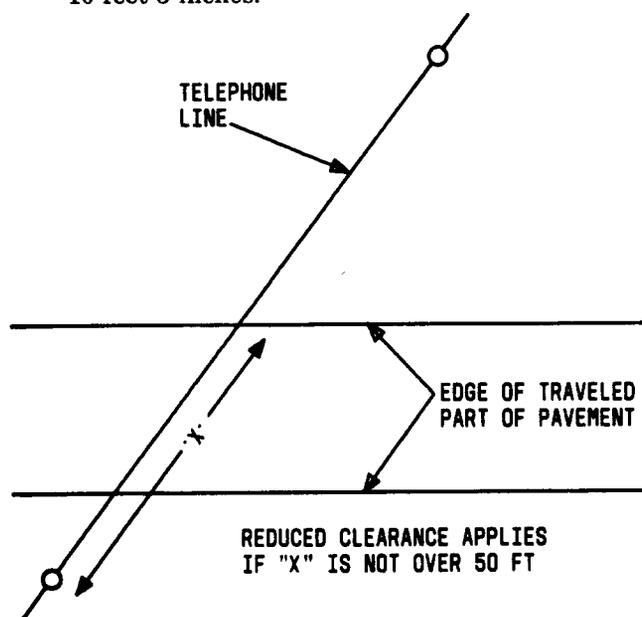

Fig. 2—Midspan Sag Diagram
1.06 The clearances for **wire crossing alleys, roads, etc.**, show one set of values for general use and a second (generally lower) set of values when one pole is within 50 feet of the edge of the road as shown in Fig. 2.
1.07 Where poles can be located within 50 feet of the far edge as shown in Fig. 2, it will not always be necessary to base the height of attachment upon 100 percent of the midspan sag. The approximate percentage of sag which should be used in determining the height of pole attachments when Fig. 2 applies is shown below. This procedure should be ignored for spans under 180 feet.